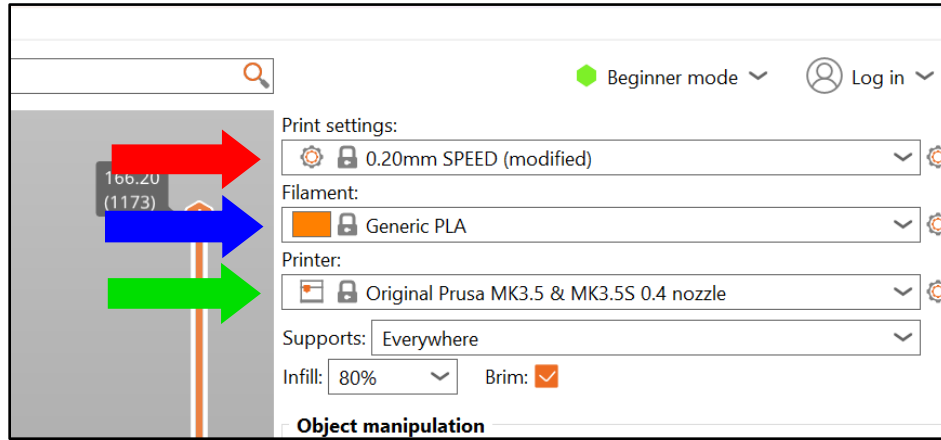

Figure 5. Main Plate Settings.
- 11.) Once the slicing is finished, click “Export G-code” (see Figure 5) and save the G-code to a flash drive.